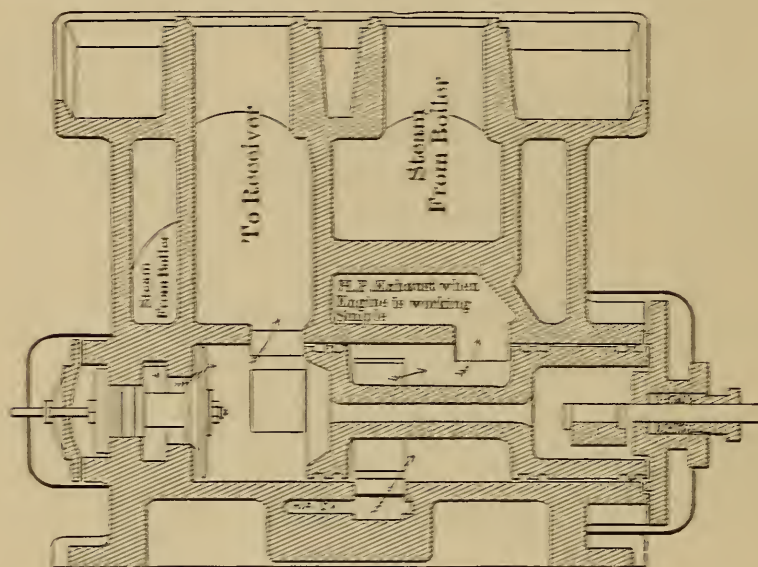
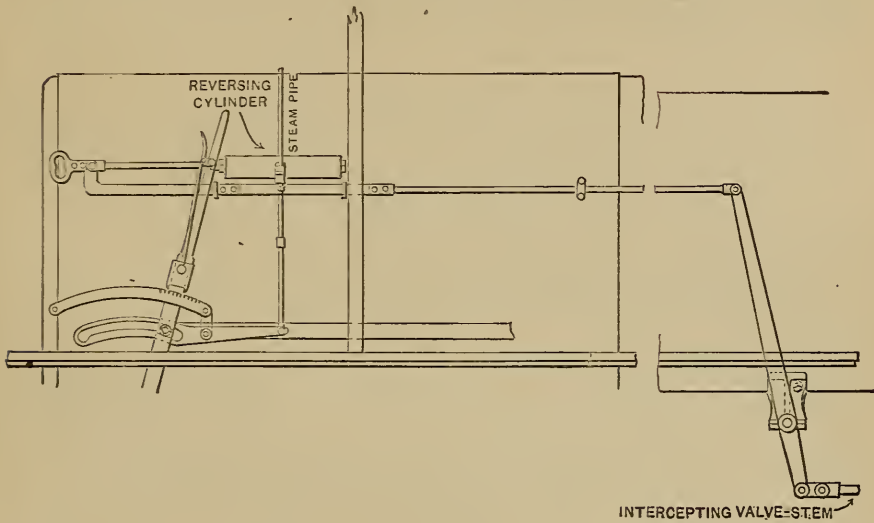

Fig. 216. Pittsburgh (Colvin-Wightman) Compound, Working Single-Expansion.
Fig. 218. Reversing-device, Pittsburg (Colvin-Wightman) Compound.
A. Referring to figures 216 and 217, the essential features are
A. Through an independent exhaust-passage and nozzle, as in figure 216.
A. As shown in figure 218 there is an air or steam reversing-cylinder actuated by the reversing lever as follows: when the lever is down, or at full stroke, at either end, the intercepting-valve is in the position indicated by figure 216, permitting admission of live steam to the receiver; but the moving of the reverse-lever one or more notches opens a valve